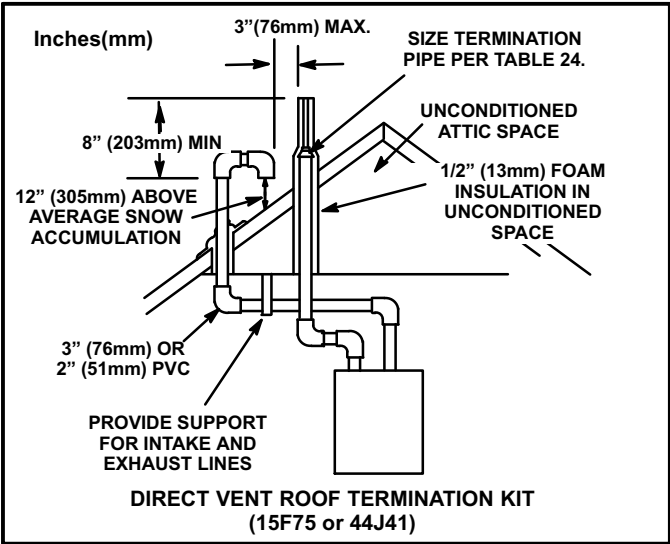

FIGURE 27
NOTE - In Direct Vent installations, combustion air is taken from outdoors and flue gases are discharged to outdoors. Intake and exhaust pipes may be routed either horizontally through an outside wall or vertically through the roof. In attic or closet installations, vertical termination through the roof is preferred. Figures 27 through 38 show typical terminations.
- 3. On roof terminations, the intake piping should terminate straight down using two 90° elbows (See figure 27).